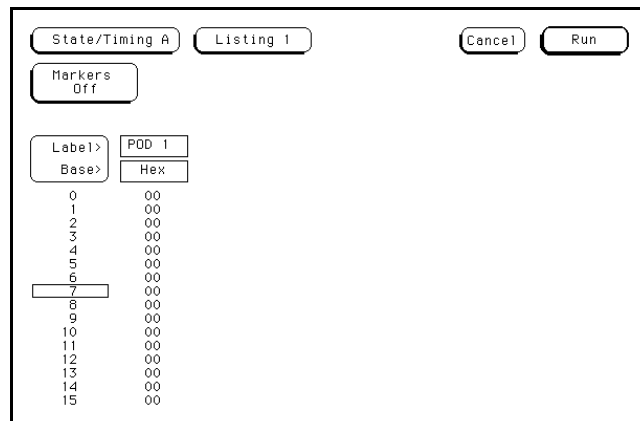

Figure 3-15. Listing Screen
- Touch **Run**. The State Listing screen will be displayed and should show all 0's for the channels under test. See figure 3-15.